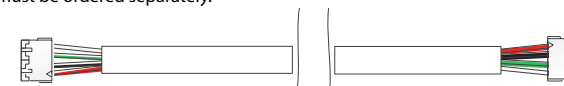

Figure 2 – Connector Cable IP150 to UC300
- Plug in the UC300 to the IP150 using the IP150 Panel port and the UC300 serial port. See Figure 2 for the proper cable.